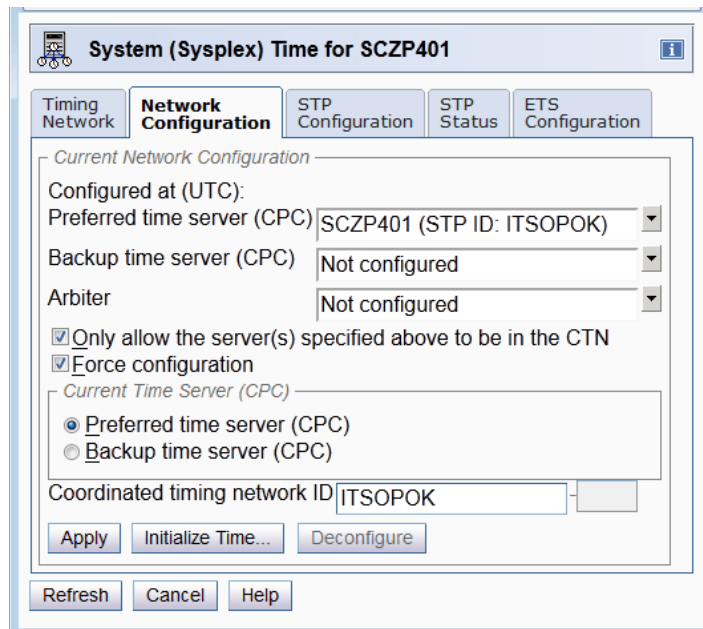

Figure 3-38 Selecting “Force configuration” for the first server of the new CTN
4. Select **Apply** to activate your selections (Figure 3-38).